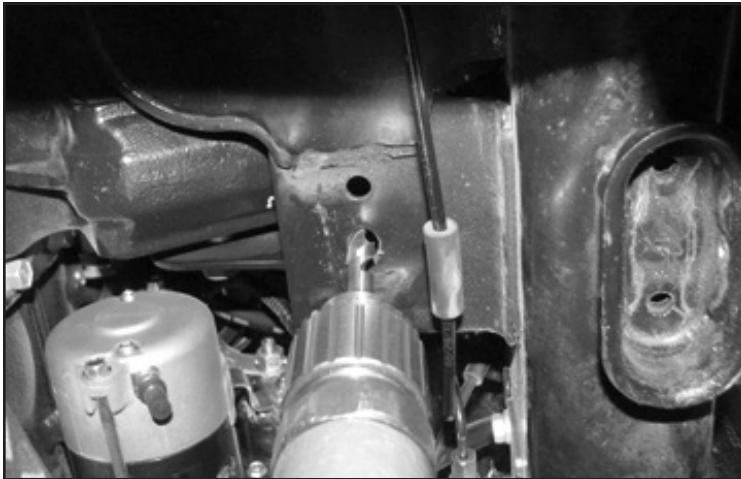

FIGURE 16 - STEP 24
24. Using a 1/2" drill bit, drill out the hole in the factory crossmember inline with the factory bump stop mount. **SEE FIGURE 16**